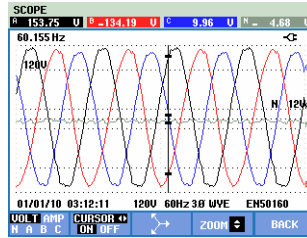

Figure 23-2. Waveform display, cursor on
- Press F2 to switch the Cursor on. Use the left/right arrow keys to move the Cursor horizontally along the waveforms. The value of the waveforms at the Cursor is displayed in the screen header as shown in Figure 23.2.